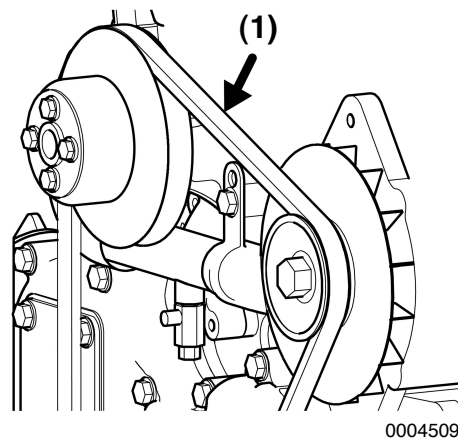

Figure 4
2. Check the belt by pushing on the middle of the belt (**Figure 4, (1)**) with your finger. With proper tension, the belt should deflect 8 - 10 mm (approximately 3/8 in.).